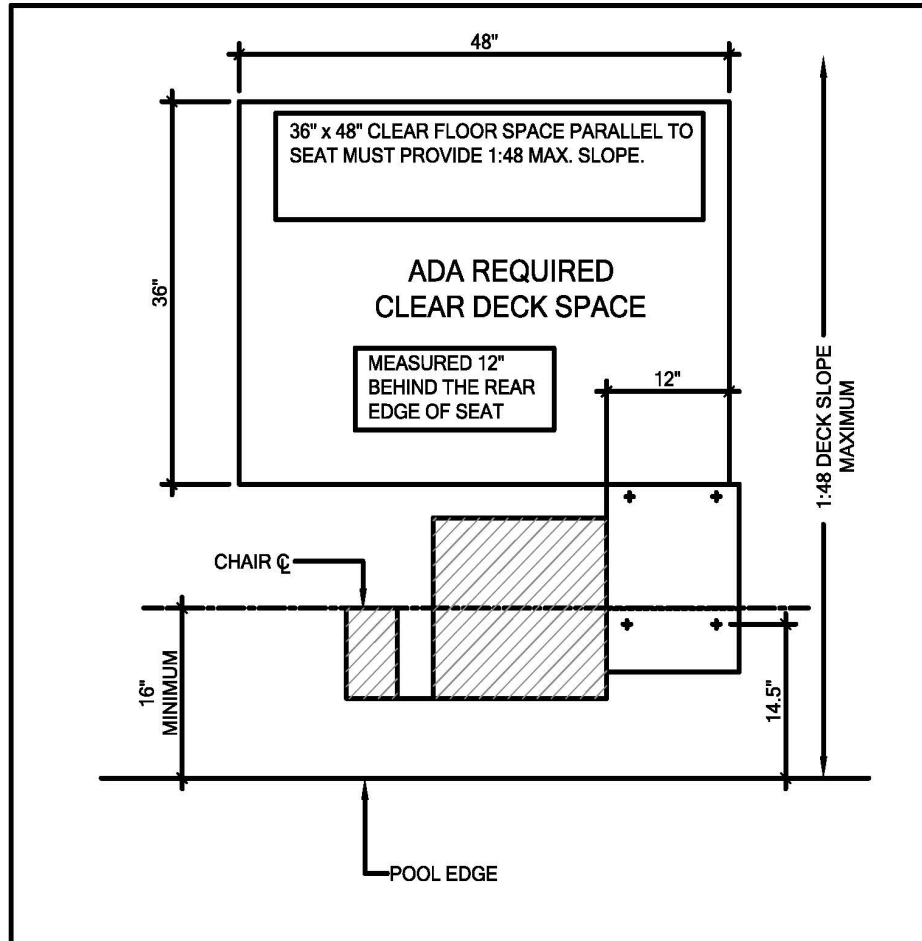

Fig. 1
Before installing the model #114 Pool Lift it is necessary to select the correct location for the mounting base. The model Pool Lift can be installed in a wide variety of locations, but the owner and installer should be aware of the regulations set forth by the American with Disabilities Act (ADA) with concern to lift installations. Fig. 1 below shows an example of an ADA compliant installation, which incorporates the following ADA rules in order to be compliant.
In the raised position, the centerline of the seat shall be located over the deck and 16 inches (405 mm) minimum from the edge of the pool. The deck surface between the centerline of the seat and the pool edge shall have a slope not steeper than 1:48. (See figure 1)
On the side of the seat opposite the water, a clear deck *space* shall be provided parallel with the seat. The *space* shall be 36 inches (915 mm) wide minimum and shall extend forward 48 inches (1220 mm) minimum from a line located 12 inches (305 mm) behind the rear edge of the seat. The clear deck *space* shall have a slope not steeper than 1:48. (See figure 1)
1. When you open the cardboard box, you will find the battery charger which has two (2) holes and the metal bracket, which can be mounted on the wall to hold your charger. Next is the hand controller, the control box which has four (4) holes, and the battery.
6. To determine the area to install the lift, see the ADA guidelines. (See Figure 1)